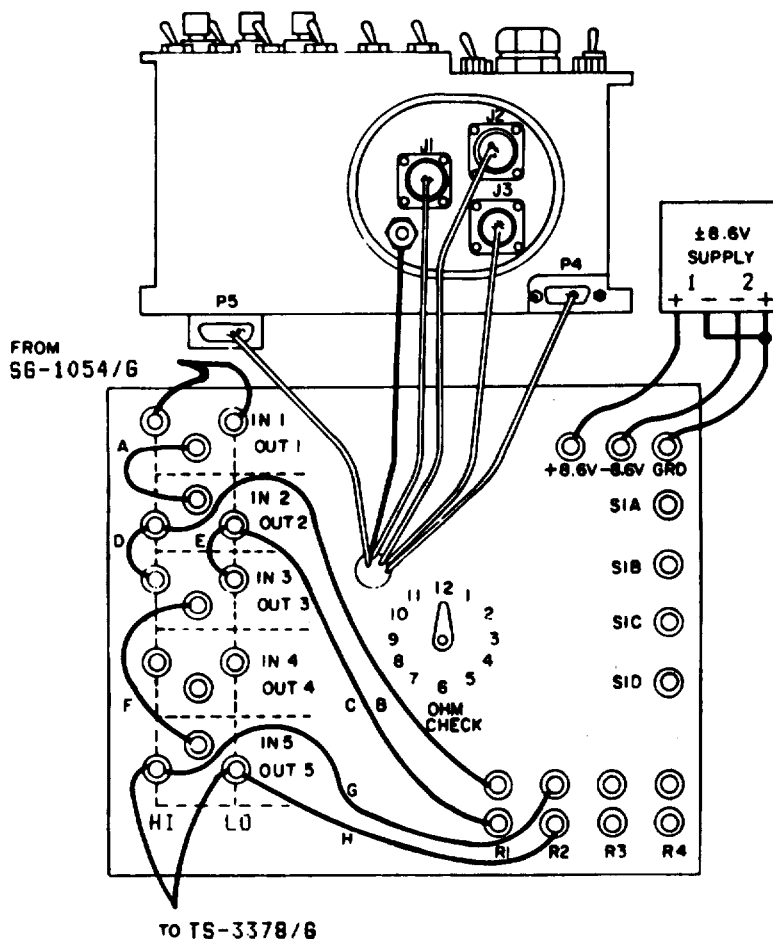

Figure 6-13. INTERFACE TEST SETUP
c. **TEST SETUPS AND PROCEDURES.** (See figure 6-13. )